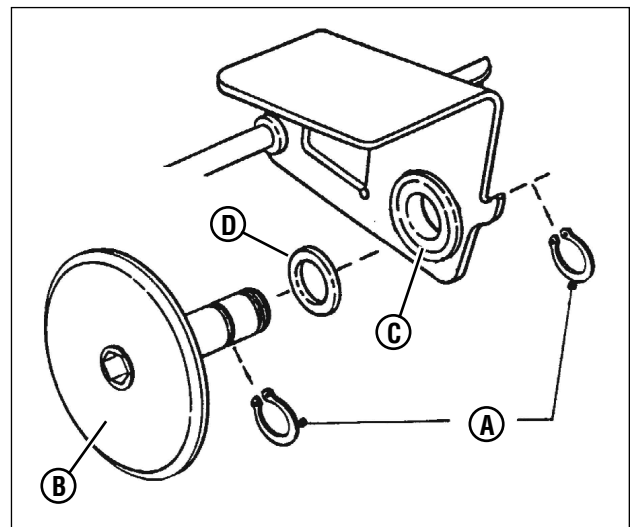

Figure 30: Replacing the driven disc
3. Remove the two snap rings (A, Figure 30) which secure the rubber driven disc (B) to the driven disc assembly.
2. Remove both snap rings (A, Figure 30) that secure the rubber driven disc (B) to the thrust plate.
4. Drive out the existing bearing (C).